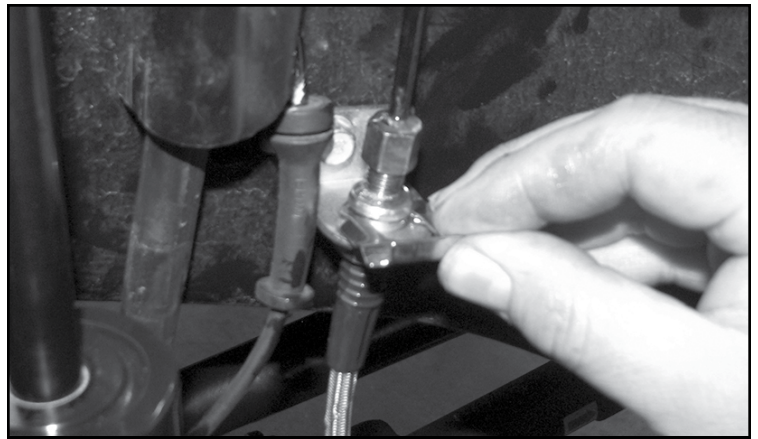

FIGURE 20 - STEP 3
3. Insert the new brake line fitting through the bracket and install onto the factory brake hardline. Next, install the supplied u-clip to secure the line to the bracket. **SEE FIGURE 20**